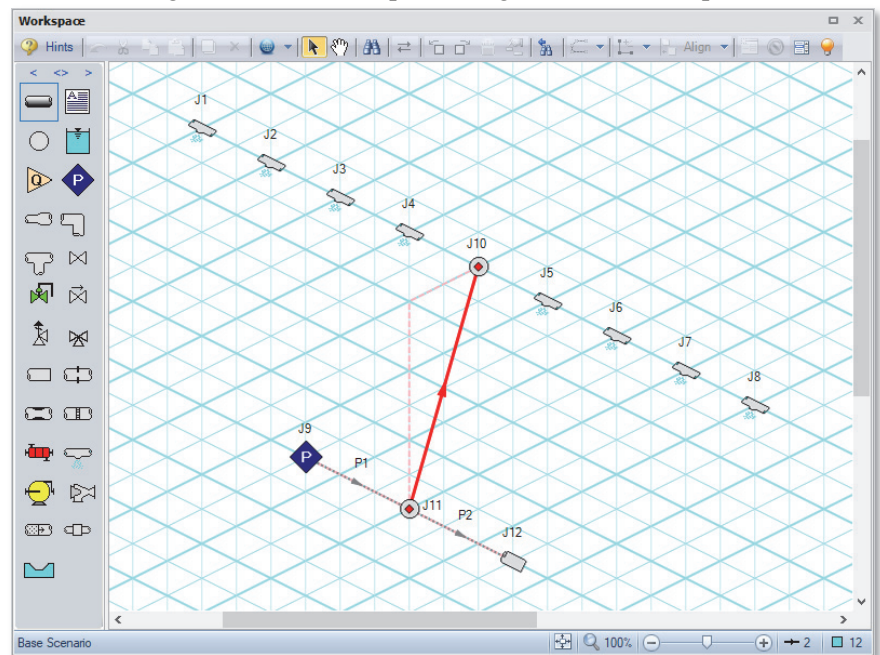

Figure 3.12 A preview line shows when drawing or adjusting pipes
11. Draw Pipe 3 from J11 to J10. A red-dashed preview line will show how the pipe will be drawn on the isometric grid. As you are drawing a pipe, you can change the preview line by clicking any arrow key on your keyboard or scrolling the scroll wheel on your mouse. Figure 3.12 shows Pipe 3 being drawn with the preview line.